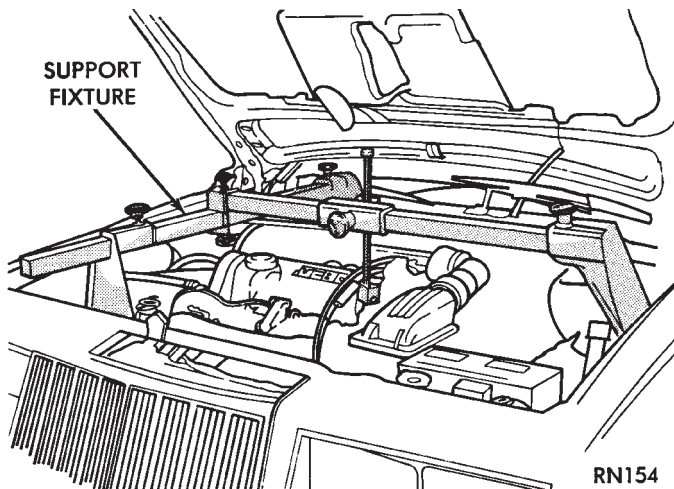

Fig. 1 Engine Support Fixture (Typical)
(1) The transaxle and torque converter must be removed as an assembly; otherwise, the torque converter drive plate, pump bushing or oil seal may be damaged. The drive plate will not support a load; therefore, none of the weight of the transaxle should be allowed to rest on the drive plate during removal.
(2) Disconnect negative battery cable.
(3) Disconnect transaxle shift linkage.
(4) Install engine support fixture and support engine (Fig.1).